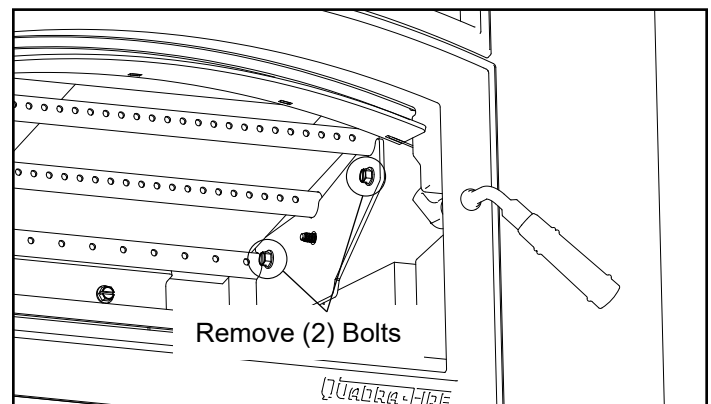

Figure 20.4
3. Locate the 2 bolts inside of chamber and remove using a 3/8 socket wrench (**Figure 20.4**).